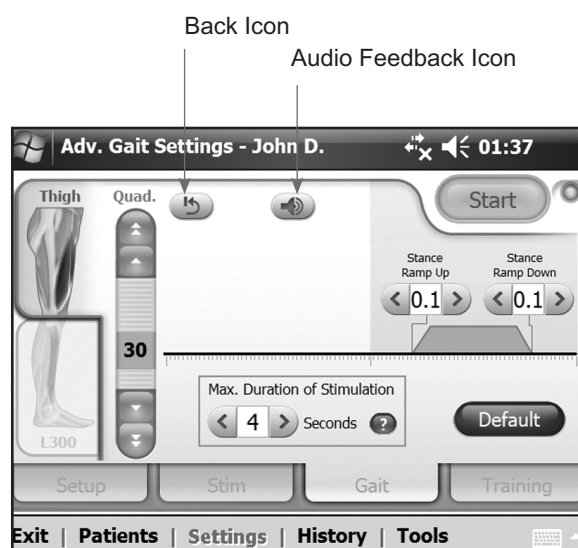

Figure 7-28: Advanced Gait Settings window, Thigh *Quadriceps*.
2. Set the maximum duration of stimulation. See Figure 7-28.